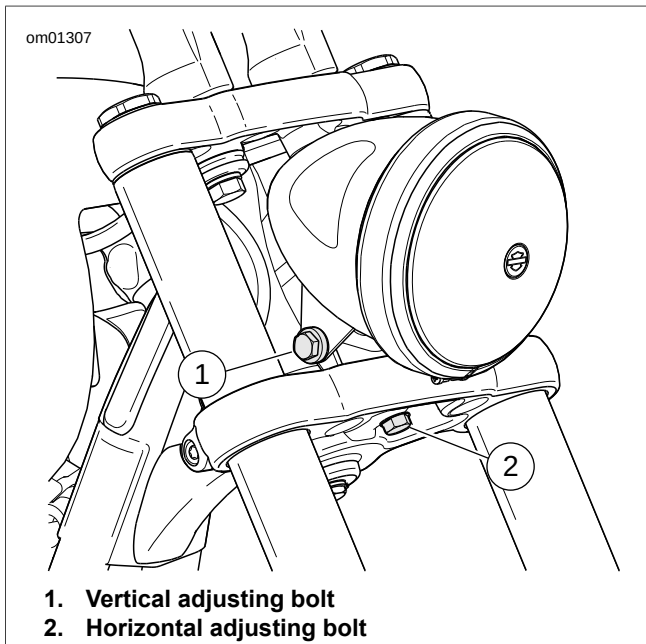

Figure 1-56. Headlamp Adjustment (typical)
1. See Figure 1-56. Loosen horizontal adjustment fastener (2). Tilt headlamp left or right to direct light beam straight ahead.
2. Tighten horizontal adjustment fastener (2) to 30-35 ft-lbs (40.7-47.5 Nm).
3. Loosen vertical adjustment fastener (1). Tilt headlamp up or down in relationship to the horizontal line from the headlamp alignment inspection.
4. Tighten vertical adjustment fastener (1) to: